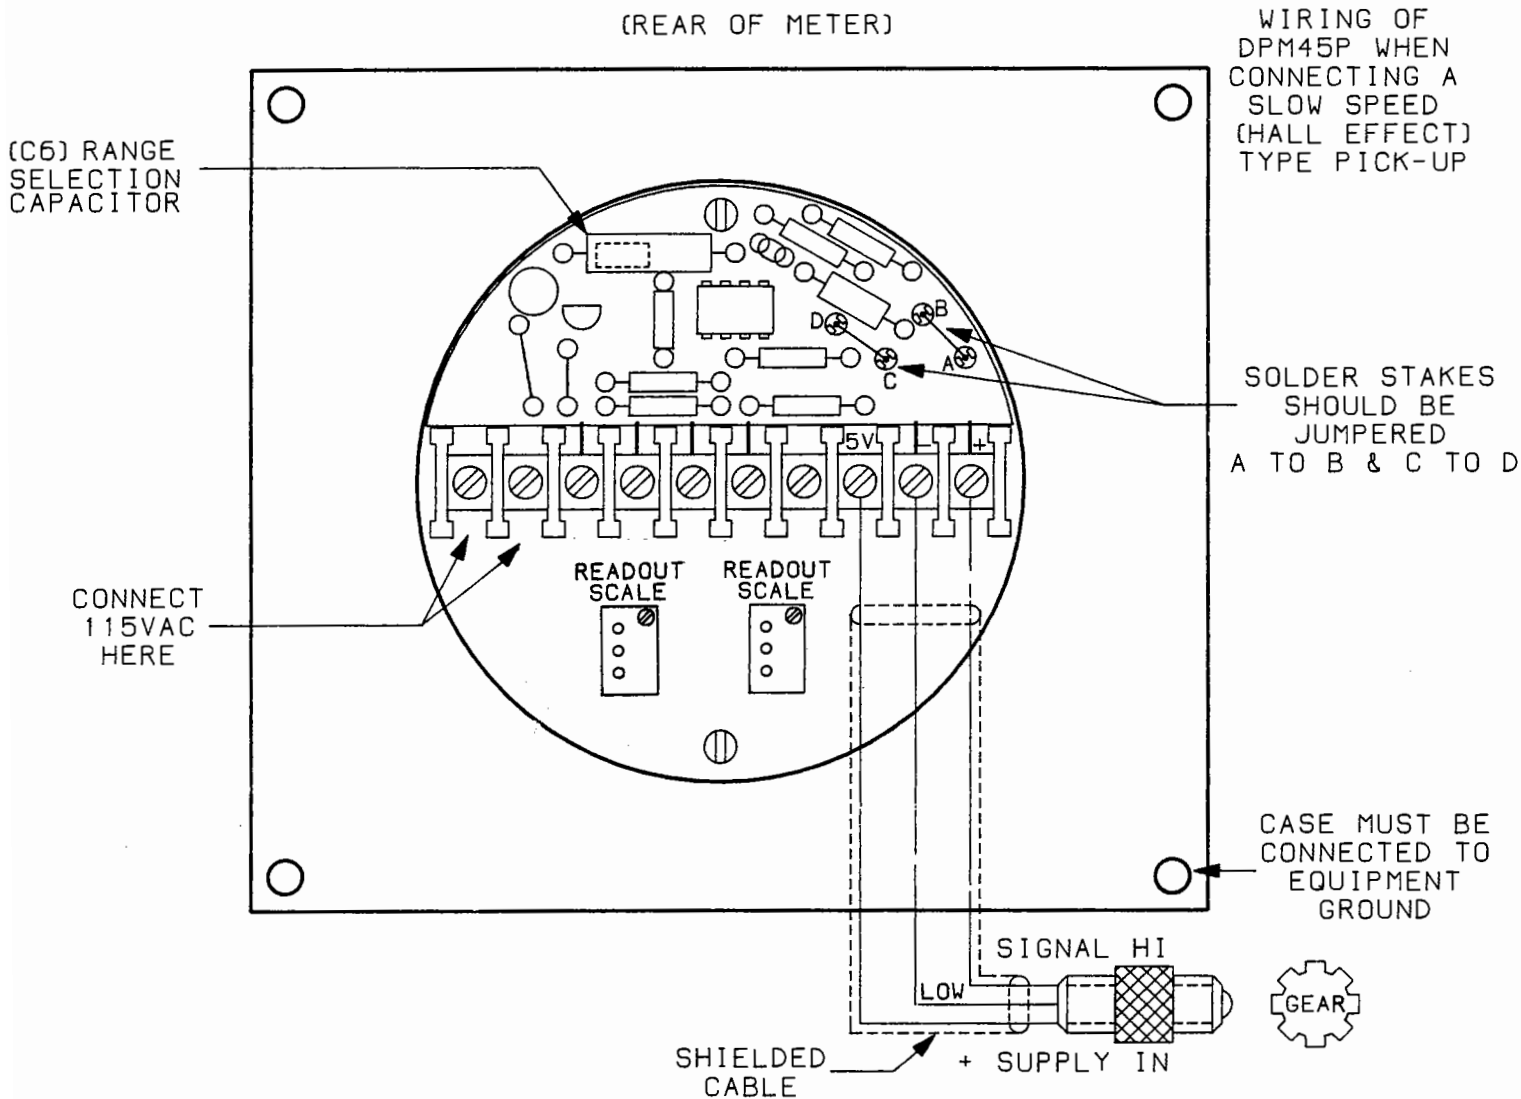

FIGURE 1
- 2.) Hall Effect Type Magnetic Pick-up (See Fig. 1) P/N RT-58426